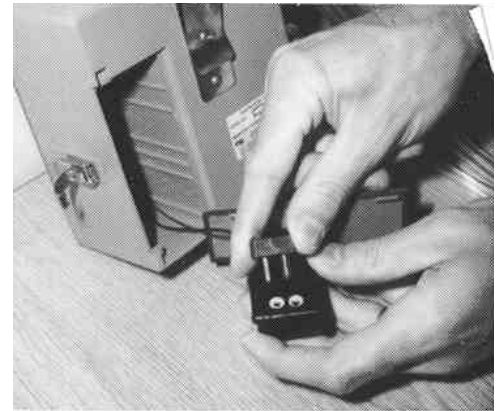

Figure IX-2 Connecting the battery connector
Step 2. Connect the battery connector from inside the PORTACOUNT to the electronics module as shown in figure IX-2. Make sure the polarity is correct. The connector should mate easily, you should not need to force it into place.